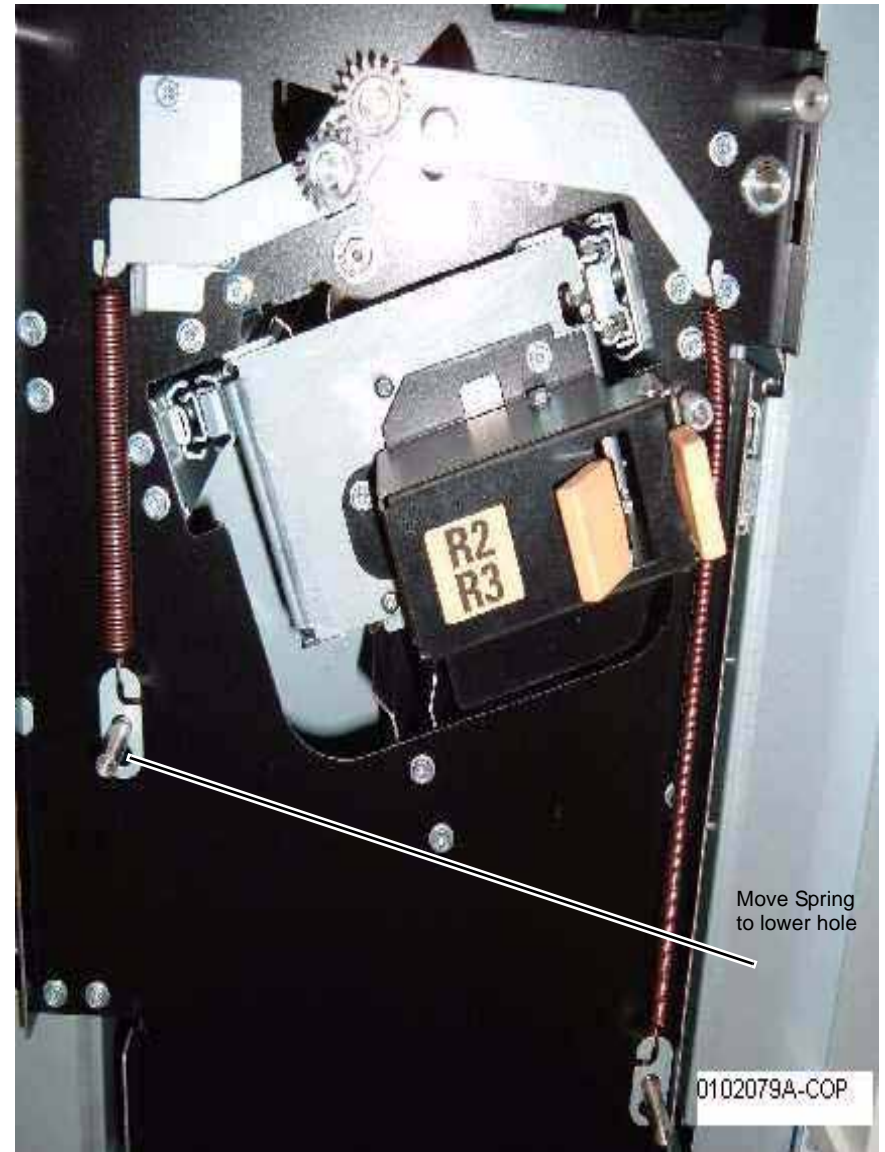

Figure 3 Adjust the front Spring tension
4. Adjust the front Spring tension (Figure 3).